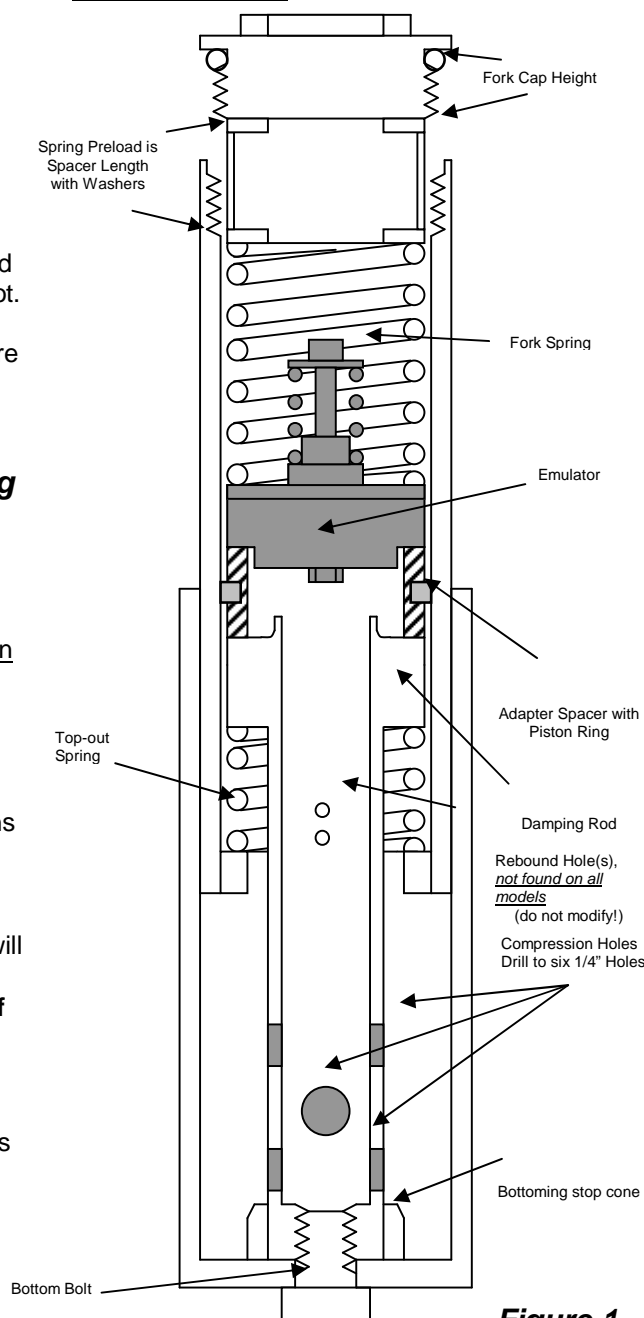

Figure 1
- 2 Drill the existing compression holes in the damping rod to 1/4 inch (6 mm) so you end up with Six holes (3 sets of 2 holes) (figure 1).** When drilling new holes, space them axially (lengthwise) at 10 mm (7/16") increments. Each set of two holes must be perpendicular to the last set so as not to weaken the rod (figure 1). After drilling, chamfer and deburr the compression holes, inside and out. **Do not add or enlarge the rebound holes and leave their edges sharp.**
- a. Drop the Emulator down the tube on Betor, Bultaco & Ceriani Models. It sits on top of the adapter spacer & damping rod with the Emulator Valve Spring facing up and is held in place with the main fork spring. Refer to figure 1. Visually check to make sure the Emulator is sitting squarely on top of the damping rod. NOTE: On CZ Models the Emulator and Adapter MUST be installed from the bottom of the fork tube. Remove the snap ring holding the check valve at the bottom of the chrome tube. Remove the Damping Rod and top out spring (if present). Install the Emulator up into the fork tube, then the Adapter, damping rod, top out spring, check valve and snap ring. Some CZ Models MAY have a travel limiter that needs to be removed or cut down to allow space for the Emulator and Adapter due to the internal taper at the fork tube.
- c. Set the fork cap on the washer and determine the preload by measuring from the top of the fork tube to the sealing lip on the fork cap (see figure 1). This is a direct measurement of fork spring preload. Shorten the spring spacer tube to achieve the proper preload.